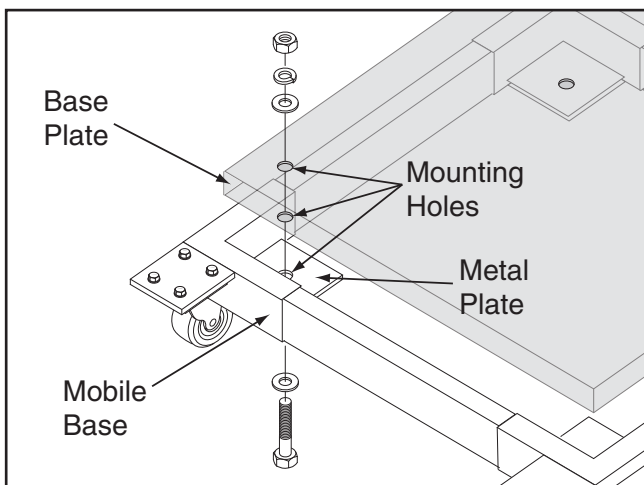

Figure 12. Mounting base plate to mobile base.
6. Secure base plate to mobile base with hex bolts, hex nuts, flat washers and lock washers, as shown in **Figure 12**.